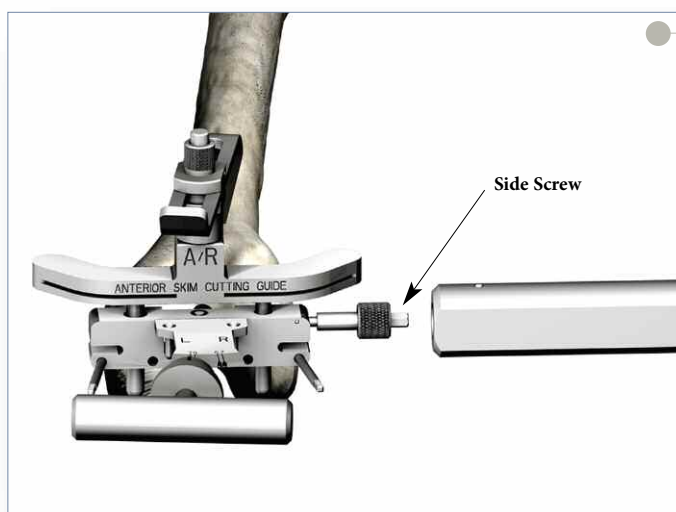

Figure 17
- Tighten the side screw with the hex wrench to lock the resection guide in place (**Figure 17**).